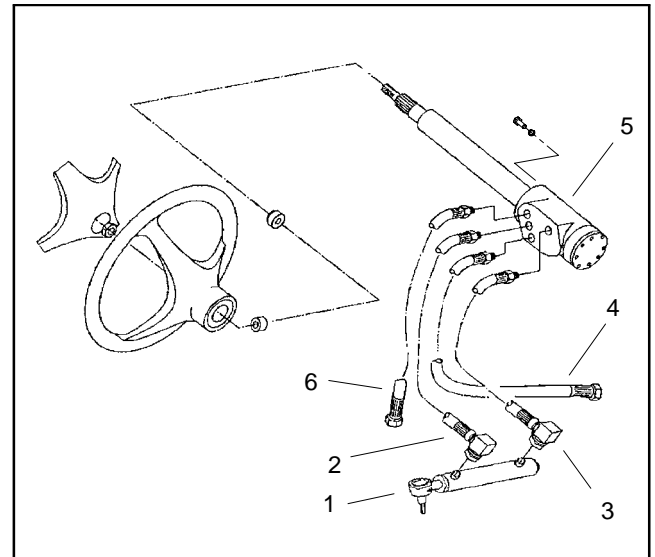

Figure 28
4. Disconnect hydraulic hoses from steering cylinder (Fig. 28). Allow hoses to drain into a suitable container.
6. Connect hydraulic hoses to steering cylinder (Fig. 28). Tighten hose connections (see Hydraulic Hose and Tube Installation in the General Information section of this chapter).